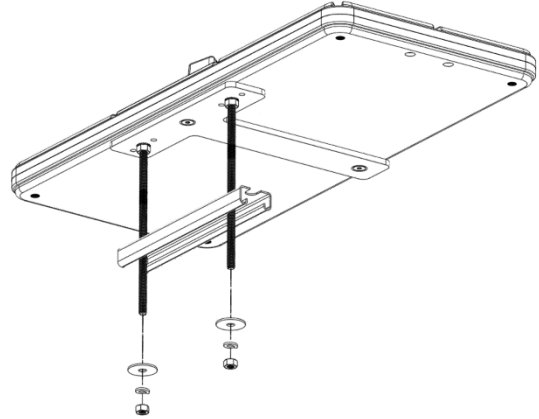

Figure 7-2: Mounting ARES to the torque tube (not shown).
4. Secure the bracket in place by attaching the strut below the torque tube and securing with (2) each of the 5/16" fender washer, locking washer and hex nut. See Figure 7-2.